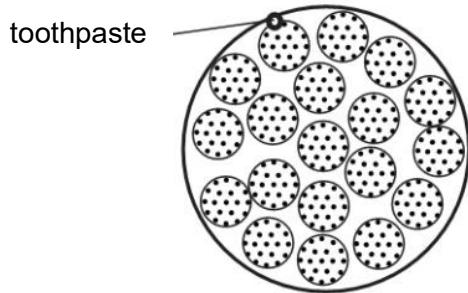

Fig. 8.4
- (d) Fig. 8.4 shows a particle of toothpaste of mass $2.5 \times 10^{-6} \text{ kg}$ on the edge of the brush head.